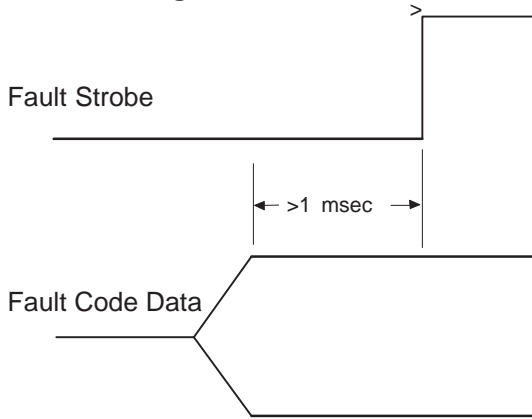

Fig. 36
23. If a fault occurred during the cycle, and the fault code was not acknowledged by the robotic controller, the robotic controller can read the fault code at the end of cycle. NOTE: volume data does not erase fault data. (See Figure 36, Fault Handling on page 58.)